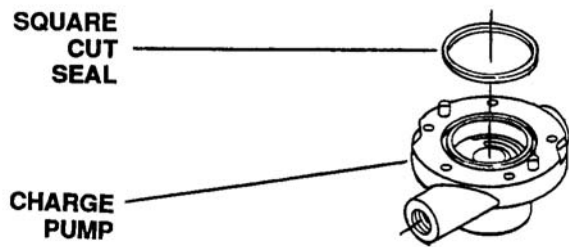

Figure 6-128. Installing Square Cut Seal
15. Lightly lubricate new square cut seal with petroleum jelly and install in seal groove of pump housing. See Figure 6-128.